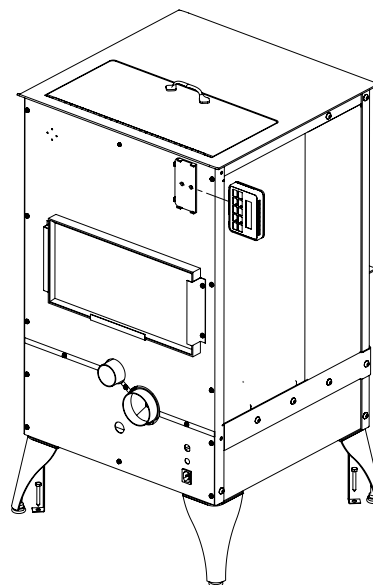

Figure 9: Controller on plastic bracket in back.
2. Back of the stove with controller hidden. You may mount the controller on either side of the stove (see figure 9). So it is not visible during operation. Attach the plastic mounting bracket to the pre-drilled holes on either side of the stove using the (2) self-tapping screws.